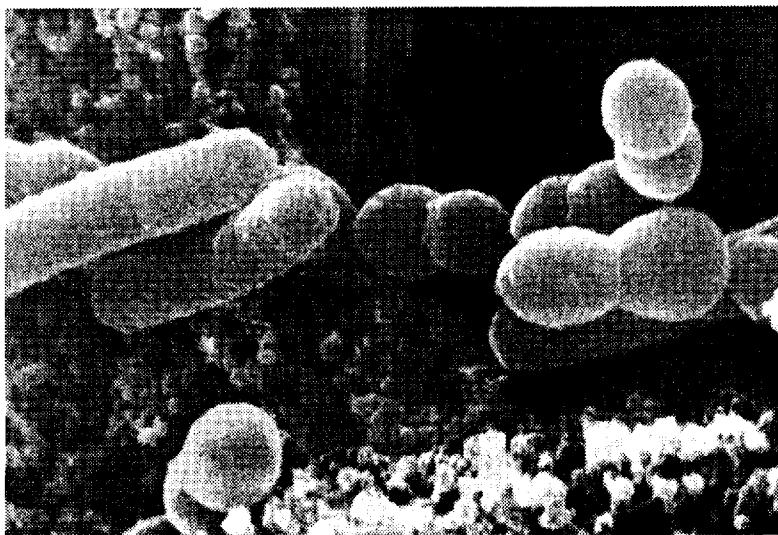

Fig. 5.1
- (b) When making yoghurt, milk is heated to 95 °C to kill any bacteria present. The milk is then cooled, a starter culture is added and the milk is incubated. Fig. 5.1 is an electron micrograph showing the two types of bacteria found in the starter culture.
(i) Label Fig. 5.1 to identify and name the two types of bacteria. [2]
Q.5 Fig. 5.1